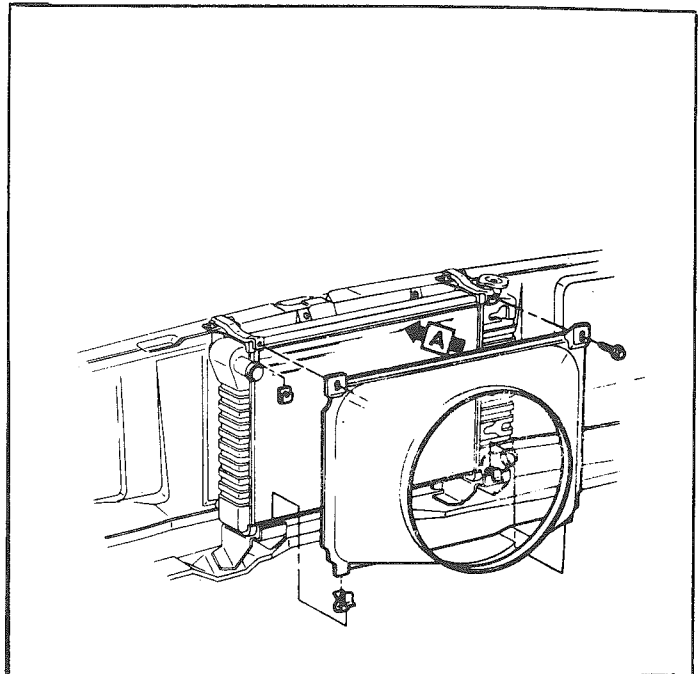

Figure 33 - Fan Shroud
**FAN SHROUD (See figure 33.)**